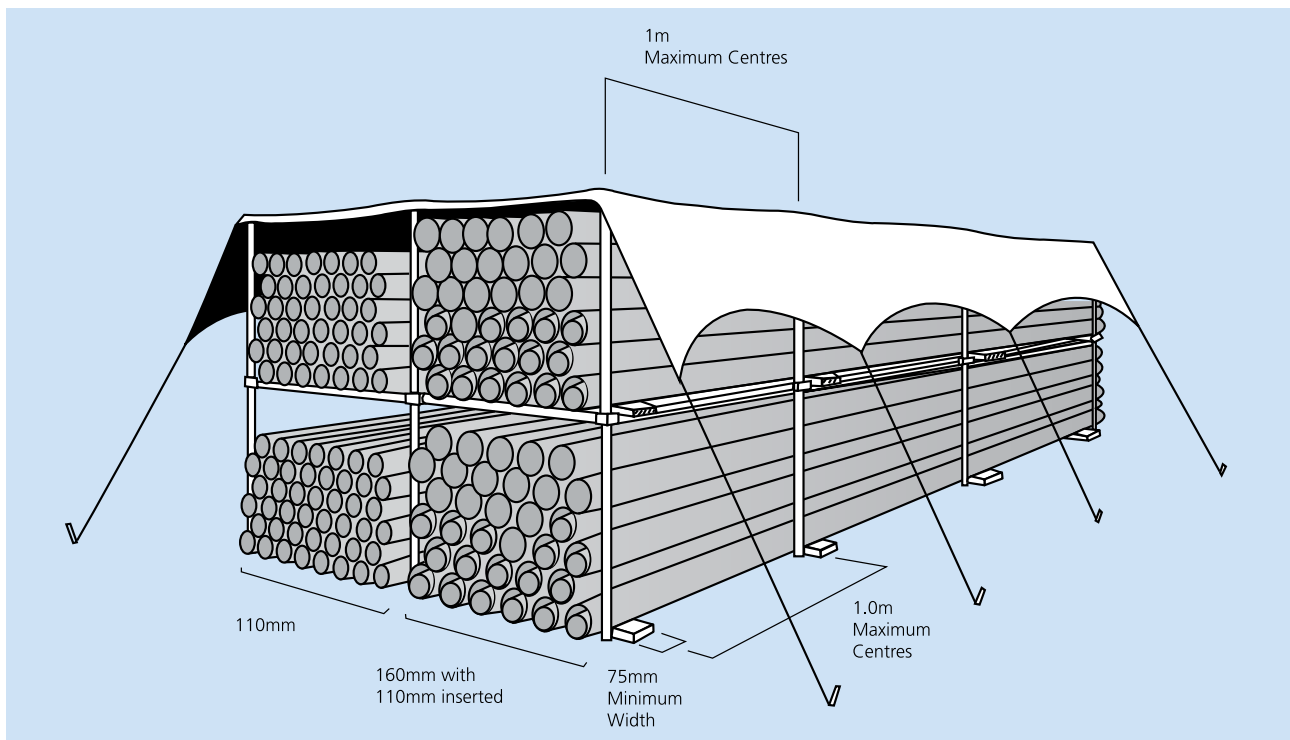

Fig. 1 Pipe stacking
- or on 75mm x 75mm timber at 1 meter centres (Fig. 1)
- Provide side support with 75mm wide battens at 1m centres (Fig. 1).